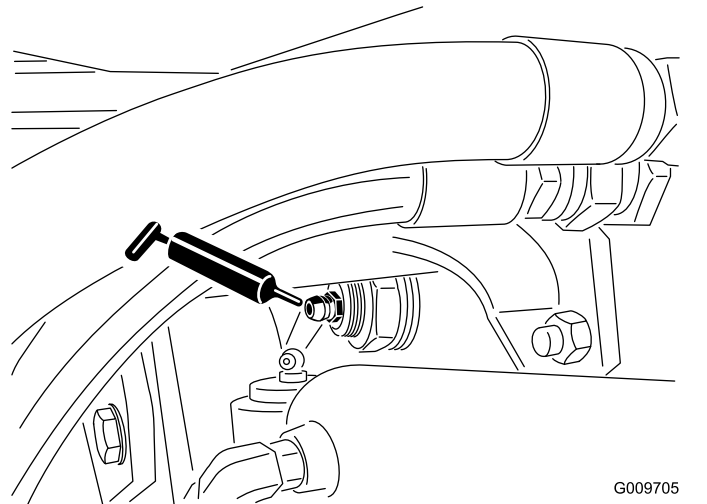

Figure 44
- Rear axle pivot bushings (2) (Figure 44)